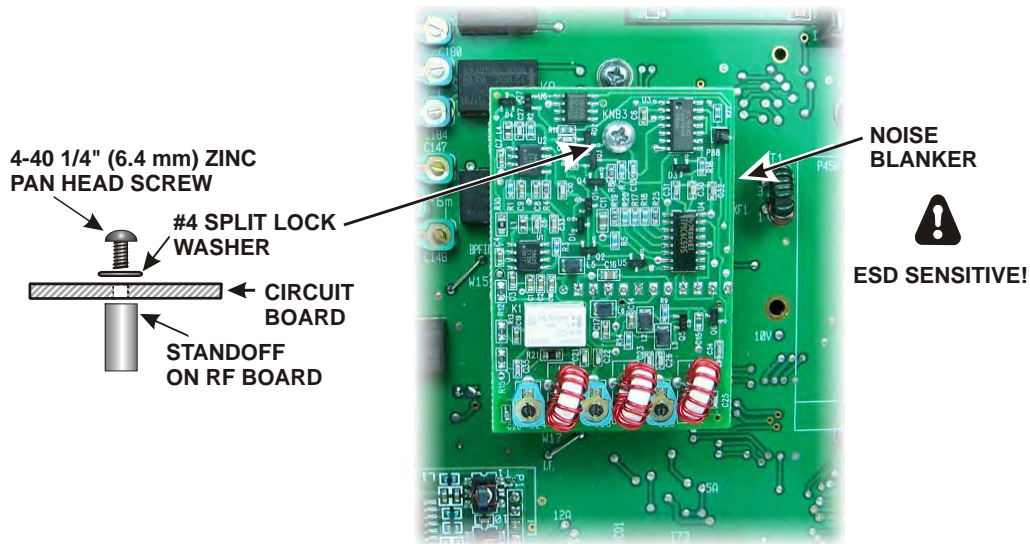

Figure 74. Installing the Noise Blanker Board.
- Plug the noise blanker board into J77 and attach it to the standoff using the hardware shown in Figure 74.